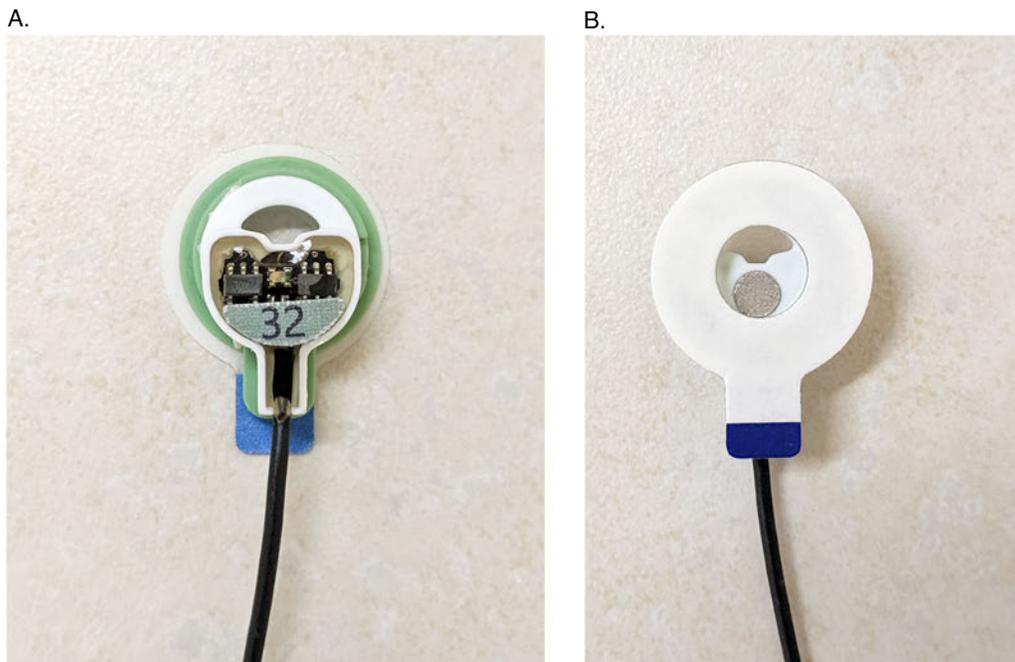

Figure 5. Properly placed electrode collar on an external electrode, as viewed from the top (panel A) and bottom (panel B) of the electrode.
12. Isolate the five external electrodes from the electrode bundle. One at a time, carefully remove an electrode collar from the strip and place it over the center of the electrode, with the tail of the collar pointing down toward the wire (see Figure 5). Leave the top cover of the collar on; this will help prevent it from sticking to your glove until you are ready to place the electrode on the subject.